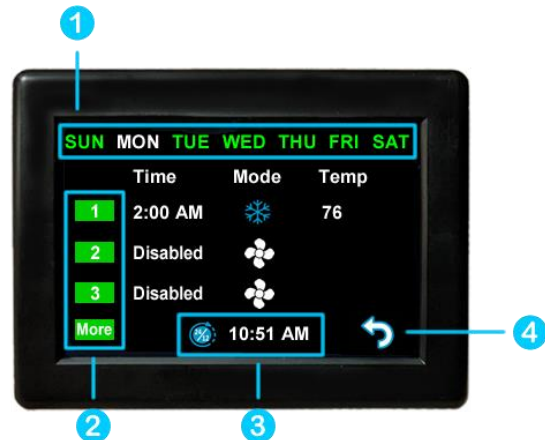
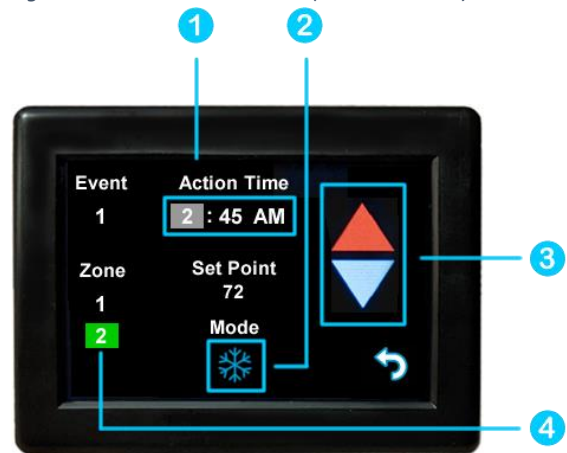

Figure 3 - Main Schedule Screen
Figure 5 - Schedule Edit Screen (Enabled Event)
The schedule supports 7 day per week scheduling of events. Events can include changes to the set point or mode of operation for one or more zones. *Figure 3* shows the main schedule screen.
Figure 5 shows the schedule edit screen once a valid time is set for the event.
- Tap the edit schedule button as described in the *Schedule – Edit, Enable or Disable* section in settings, to enter the main schedule screen, shown by Figure 3.
- Ensure that a valid (3) *System Time* is shown. Tap the day you want to set up a schedule for, then the event you want to edit, all shown by Figure 3. Tapping the event will take you to the edit schedule screen, shown by Figure 5.
- Tap the back button once again to return to the settings screen and this will save your schedule. Activate the schedule by pressing the schedule button with the “Enabled/Disabled” subtext as described in the *Schedule – Edit, Enable or Disable* section in settings. When enabled, it will be noted on the *Main Screen (3) Status Tray*.